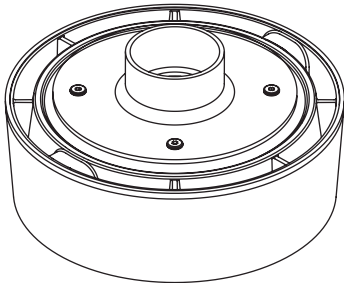

FIG. 2
2. After finishing assembly, it will be shown as below. (FIG. 2)